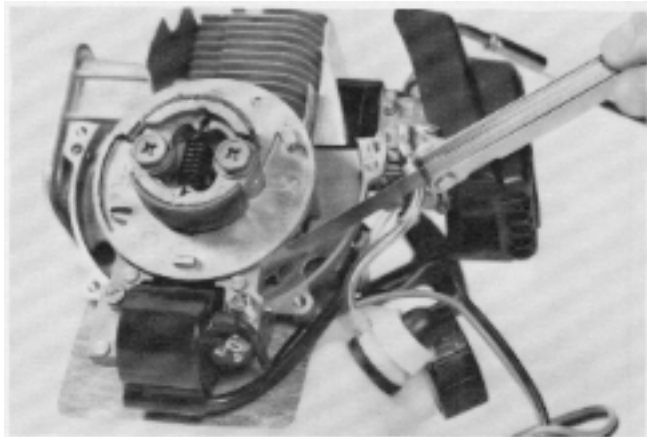

Figure 60
- Loosen the two coil mounting screws. Position a feeler gauge between the coil and the flywheel near one of the coil mounting screws and tighten. Repeat this procedure for the other end of the coil. Air gap adjustment is now complete. See Figure 60.